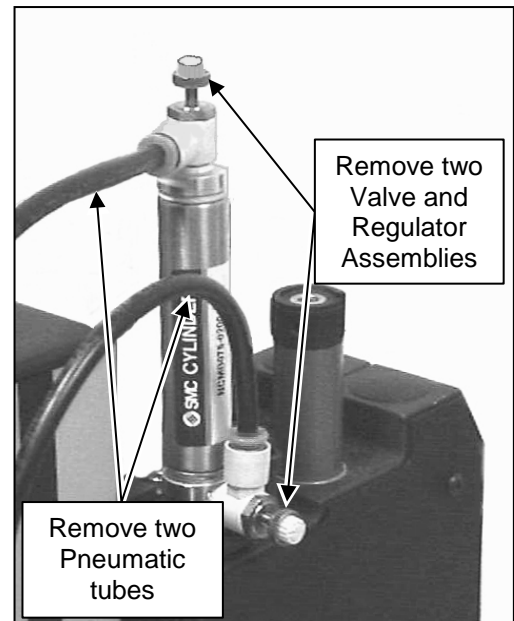

Figure 2-1 Removing Existing Air System Pneumatics
3. Note which way each of the two valve assemblies are facing. Remove the existing valve assemblies from the top and bottom of the air cylinder. Clean any pipe joint sealant from cylinders (figure 2-1).